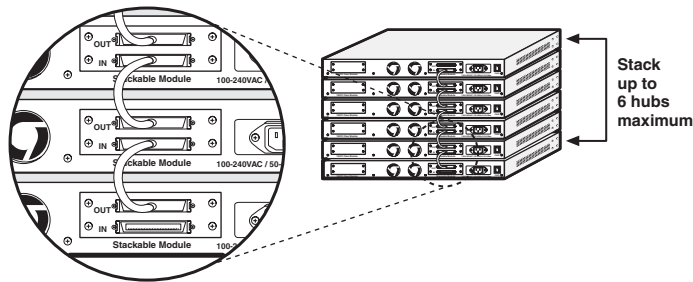

Fig. 3. Stacking Additional Hubs
5. Repeat the process to stack additional hubs up to a maximum of six (6) hubs.
Figure 3 below illustrates the configuration for stacking six of the 12-port model hubs, expanding the total number of UTP port connections from 12 to 72 UTP ports, while still being recognized as one single repeater unit on the network. A maximum of six (6) Fast EtherX hubs can be stacked in any combination of 8-, 12-, and 24-port models.